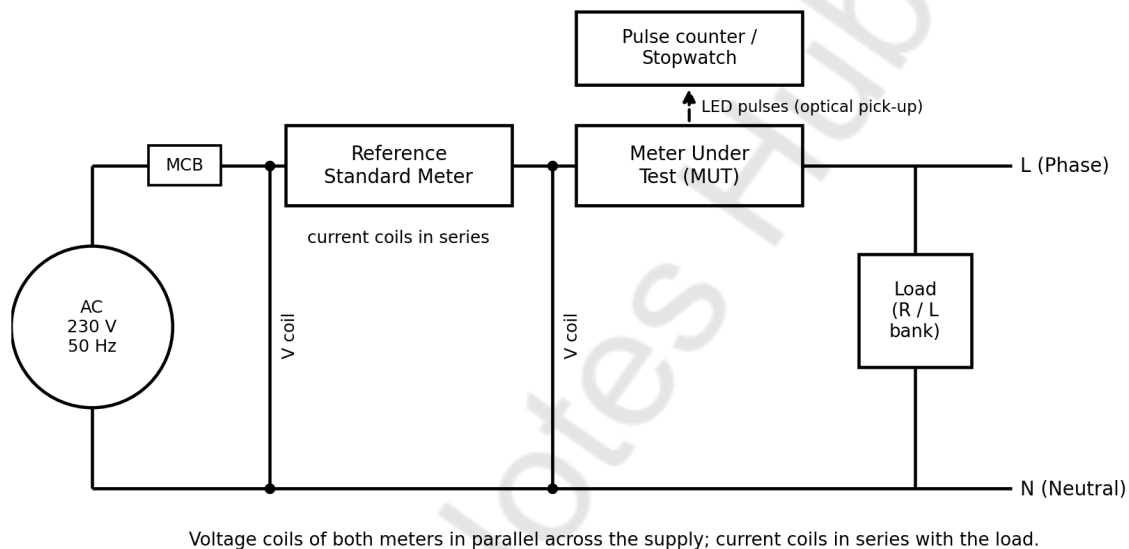

Fig. 4.5: Calibration of a single-phase electronic energy meter by direct loading
3. Connect the circuit as shown in Fig. 4.5. The current coils of the reference meter and MUT are in series with the load, and the voltage coils are in parallel across the supply.